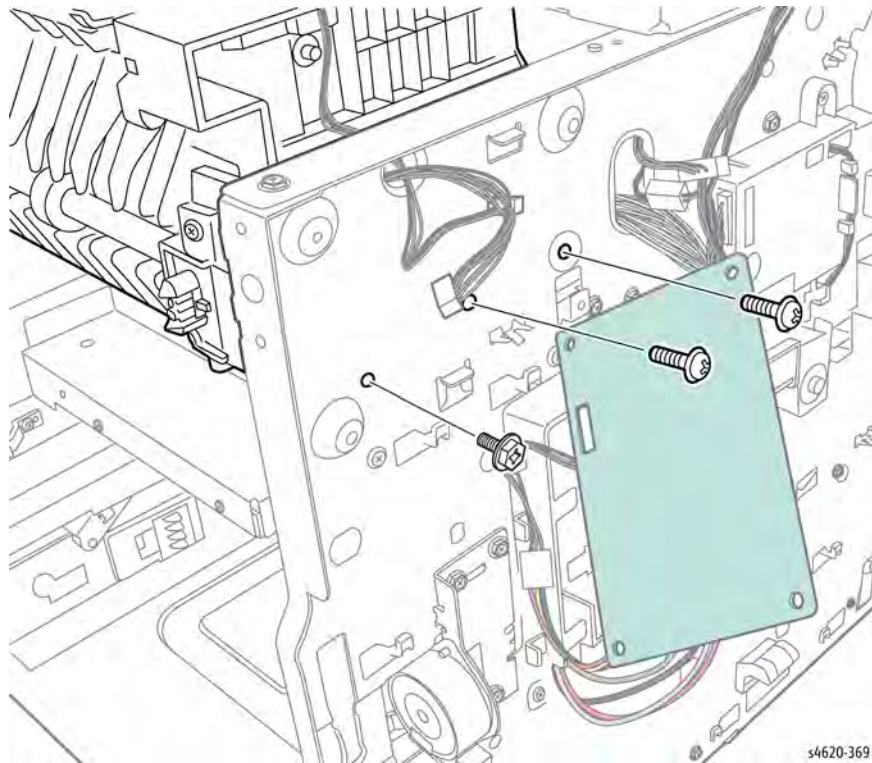

Figure 6 Remove the left side Exit Assembly screws
23. Remove 3 (2 plastic, 1 metal) screws that secure the left side of the Exit Assembly, Figure 6.